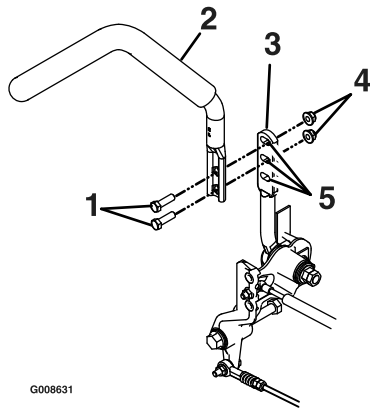

Figure 41
1. Remove the two bolts holding the control lever to the control arm shaft (Figure 41).
2. Loosen the lower bolt just enough to pivot the control lever fore or aft Figure 41. Tighten both bolts to secure the control in the new position.